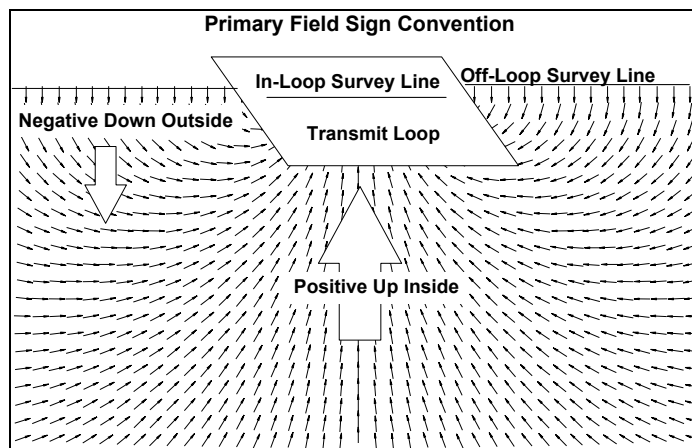

Figure B1: Primary field sign convention for TEM surveys.
TEM profiling is conducted on lines either adjacent to (Off-Loop mode) or surrounded by (In-Loop mode) a large fixed rectangular transmit loop. Current is passed through the loop which following the Turn-Off, produces a primary magnetic field (H) both inside and outside (Figure B1). This primary field induces vortex current patterns, which energize conductors and which in turn create their own secondary magnetic field (B_s). The rate of change of the decaying secondary magnetic flux (dB_s/dt) is measured as the vertical (H_z), in-line horizontal (H_x) and/or cross line horizontal (H_y) vector components on surface using an air-core sensor coil. These measurements of the TEM decay (20 log-time slices) are taken during the "Off-Time", using a 30 cycle/sec, base repetition rate.